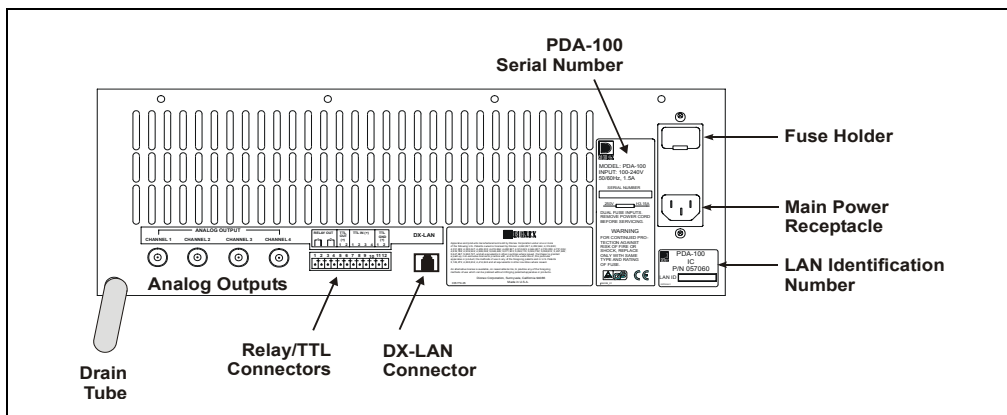

Figure B-1. PDA-100 Rear Panel
The PDA-100 power supply is auto-sensing, so it is not necessary to manually select the line voltage or frequency. To control power to the detector, connect a modular power cord (IEC 320 C13) from the PDA-100 main power receptacle (see Figure B-1) to a grounded, single-phase power source. Use the PDA-100 power switch (see Figure 2-1) to turn the detector on and off.
Connect the waste line (P/N 054779) to the PDA-100 rear panel (see Figure B-1). Place the free end of the line in a waste container below the level of the lab bench on which the PDA-100 is installed.
The PDA-100 provides four analog outputs controlled by absorbance wavelengths 1 through 4 in PeakNet 6 or Chromeleon software. They provide a 1 volt output maximum. The software controls the full-scale absorbance output and offset within the 0 to 1 volt range. Connect a recorder or an integrator to the **ANALOG OUT** connector on the PDA-100 rear panel (see Figure B-1).
3. Connect the other end of the cable into the 10BASE-T DX-LAN connector on the PDA-100 rear panel (see Figure B-1).